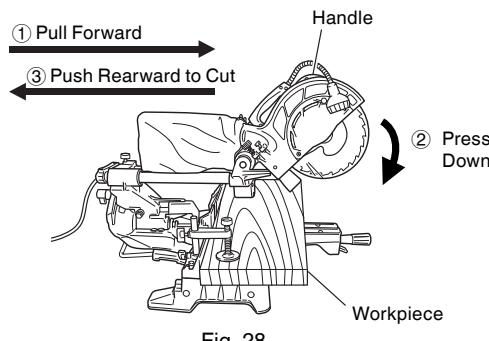

Fig. 28
Then press down on the handle and slide the saw blade back to cut the workpiece as indicated in Fig. 28. This facilitates cutting of workpieces of up to 2-9/16" (65mm) in height and 12-1/4" (312mm) in width.
- \* For slide cutting, follow the procedures indicated above in Fig. 28.